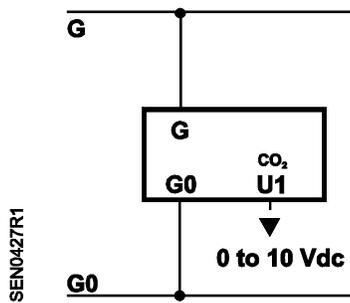

Figure 3. QPM2100, QPM2100D, QPM2100N.
- f. Connect the field wiring to the sensor terminal block on the base. See Figures 3 through 6 for wiring diagrams.